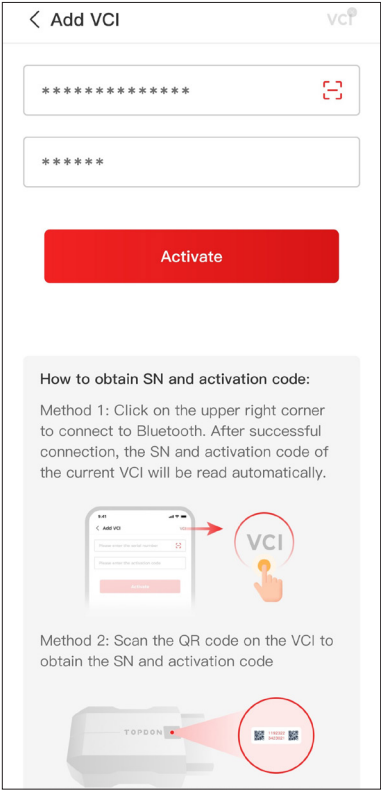

Figure 3-7
④ Select your device from the list of searched Bluetooth devices.
⑤ After successful Bluetooth connection, the SN and the activation code of the VCI will be read automatically. Then tap **Activate** (See Figure 3-7).